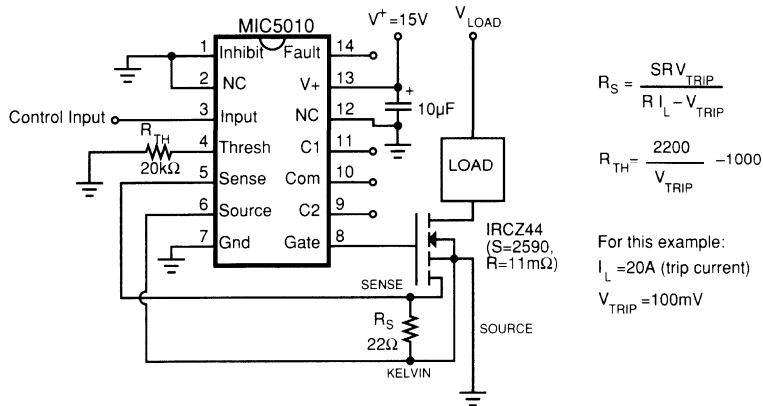

Figure 4. Low-Side Driver with Current-Sensing MOSFET
**Low-Side Driver with Current Sensing MOSFET** (Figure 4). Several manufacturers now supply power MOSFETs in which a small sampling of the total load current is diverted to a "sense" pin. One additional pin, called "Kelvin source," is included to eliminate the effects of resistance in the source bond wires. Current-sensing MOSFETs are specified with a sensing ratio "S" which describes the relationship between the on-resistance of the sense connection and the
The design equations for a low-side driver using a current sensing MOSFET are shown in Figure 4. "S" is specified on the MOSFET's datasheet, and "R" must be measured or estimated.  $V_{\text{TRIP}}$  must be less than  $R \times I_L$ , or else  $R_S$  will become negative. Substituting a MOSFET with higher on-resistance, or reducing  $V_{\text{TRIP}}$  fixes this problem.  $V_{\text{TRIP}} = 100$  to 200mV is suggested. Although the load supply is limited only by MOSFET ratings, the MIC5010 supply should be limited to 15V to prevent damage to the gate clamp zener. Output clamping is necessary for inductive loads.